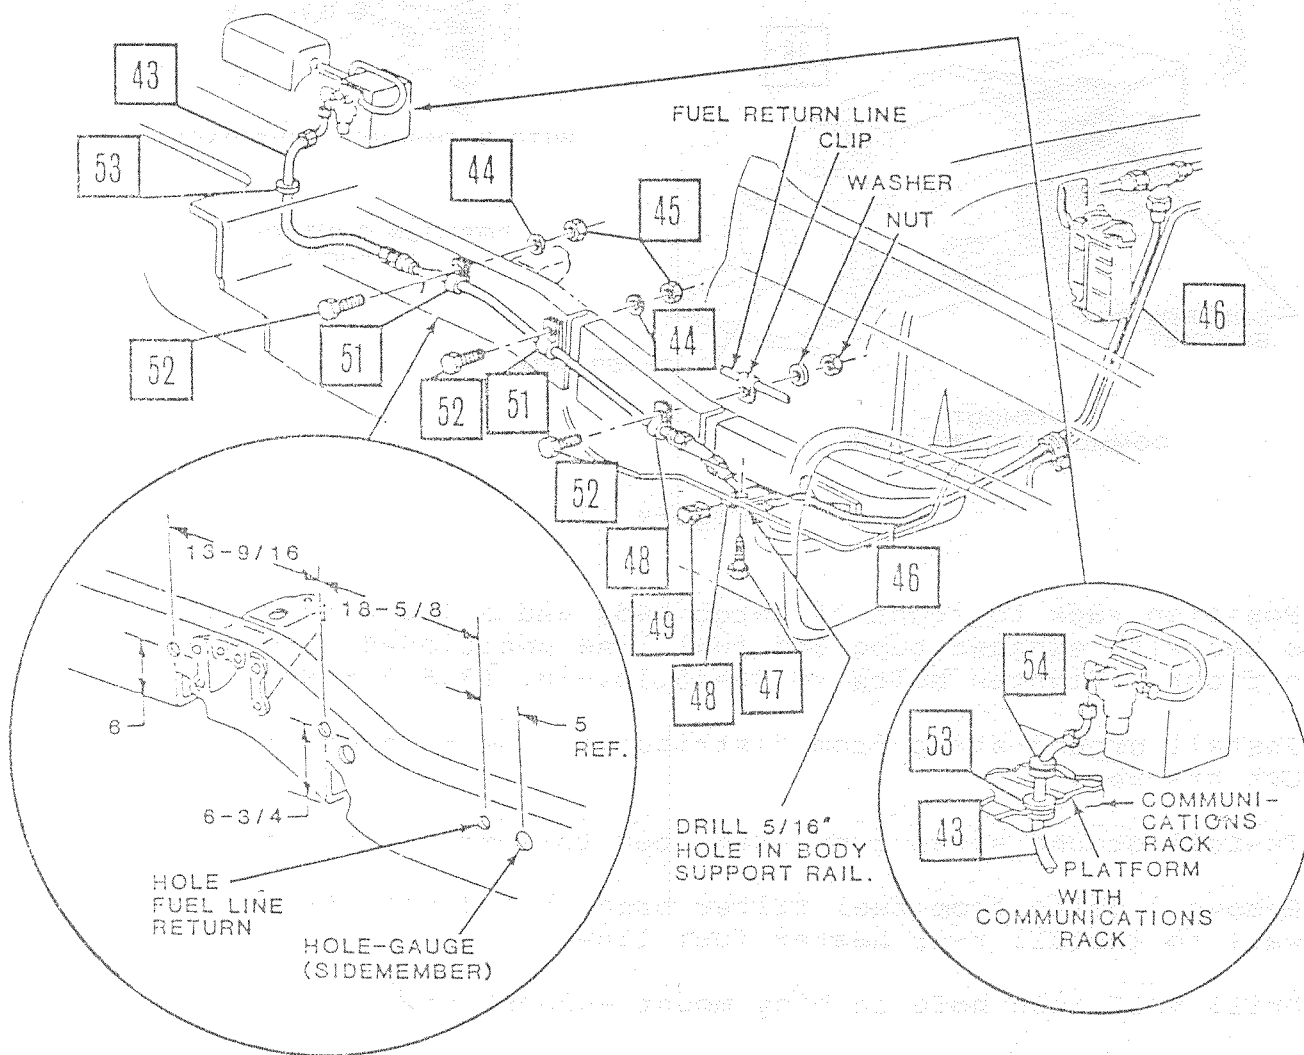

Figure 14.
47. Drill 5/16 inch hole in body mount support rail (Figure 14.).
48. Install rear fuel line along frame and "T" fitting on firewall, and through hole in cargo bed (Figure 14.).
49. Secure fuel line in position with nuts, bolts and clips (Figure 14.). Tighten bolts to 20-30 lb.-ft. (27.0-40.0 Nm).
51. Install grommets on fuel line through cargo bed and communications rack (Figure 14.). If communications rack is not used, install through cargo bed only.